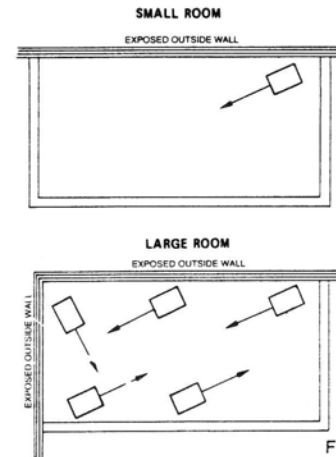

Figure 1
1. HEATER LOCATION . . . Unit heaters should be located along outside walls to provide perimeter air circulation. The discharge air should wipe the walls without blowing directly on them. (Figure 1)
2. MOUNTING UNIT HEATER(S) . . . Heater should be mounted a minimum of ten (10) inches from walls and six (6) feet above floor with discharge parallel to or away from wall.